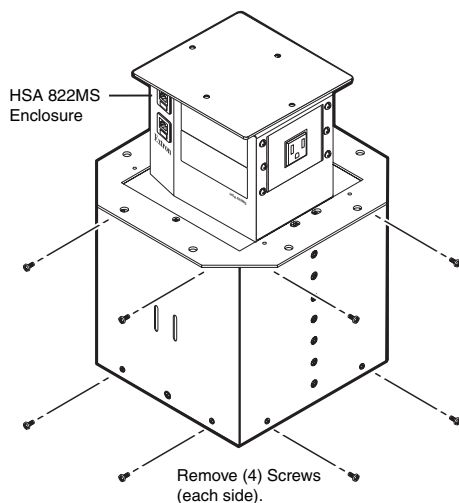

Figure 3-5 — Removing the shroud
1. Remove and retain the four screws in the corners of each side's surface of the enclosure shroud "cube" (figure 3-5). Remove the two halves of the shroud.